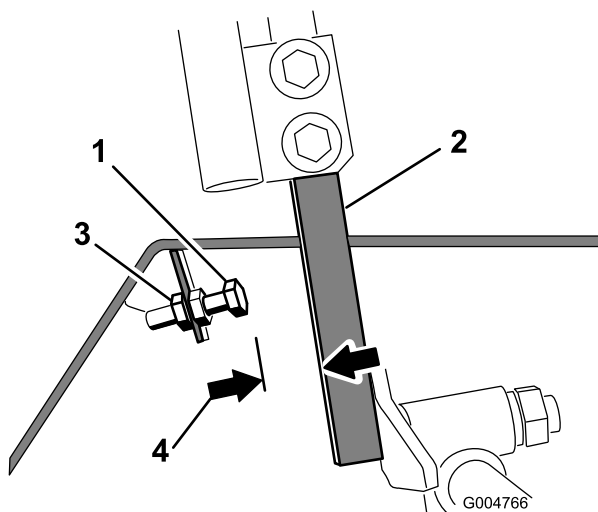

Figure 43
4. Loosen the jam nut on the stop bolt for a control lever (Figure 43).